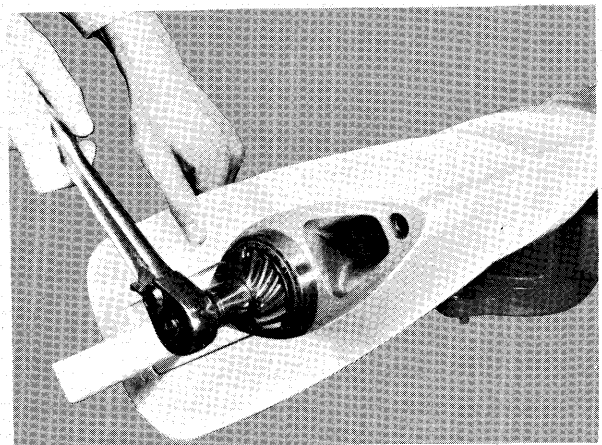

Figure 8—Tightening Retaining Nut
- F. Tighten retaining nut while swinging gear housing as shown in figure 8 until gear housing just starts to bind.